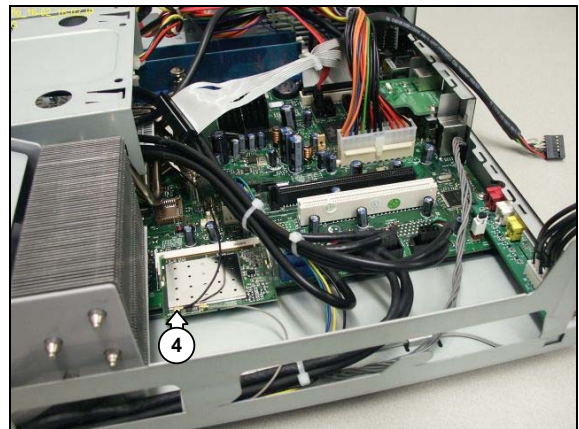

Figure 12.15-2
9. Disconnect the left WLAN antenna cable (4) from the WLAN card. See Figure 12.15-2.